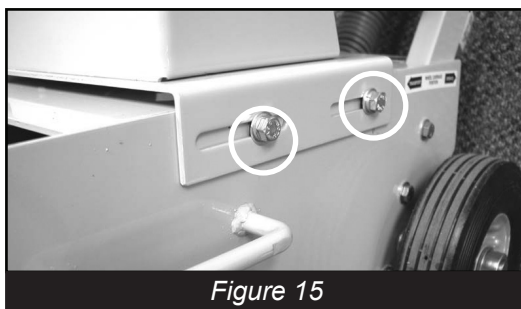

Figure 15
- Loosen engine/motor mounting bolts (*Figure 15*) on both sides of the TG-10 and slide engine forward to allow belts to slide off.